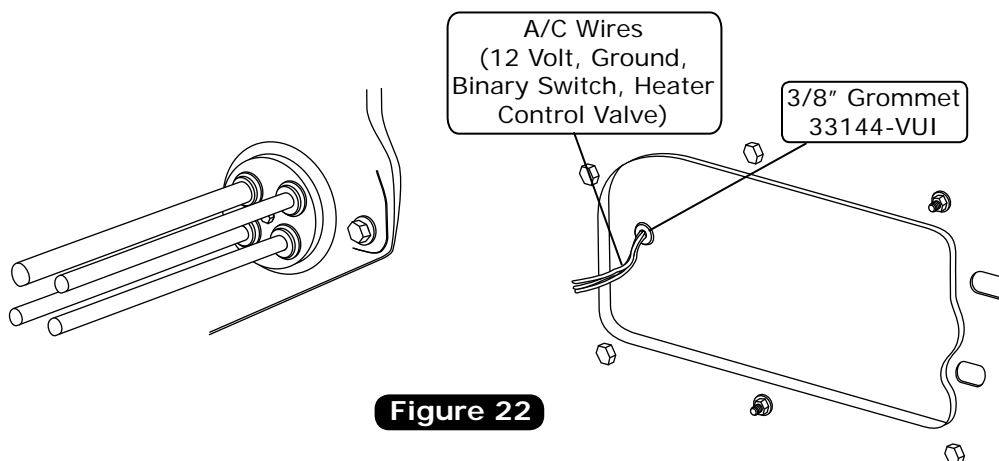

Figure 22
2. Route the A/C wires (12 volt/ground/binary switch/heater control valve) through the 3/8" grommet as shown in Figure 22, below.